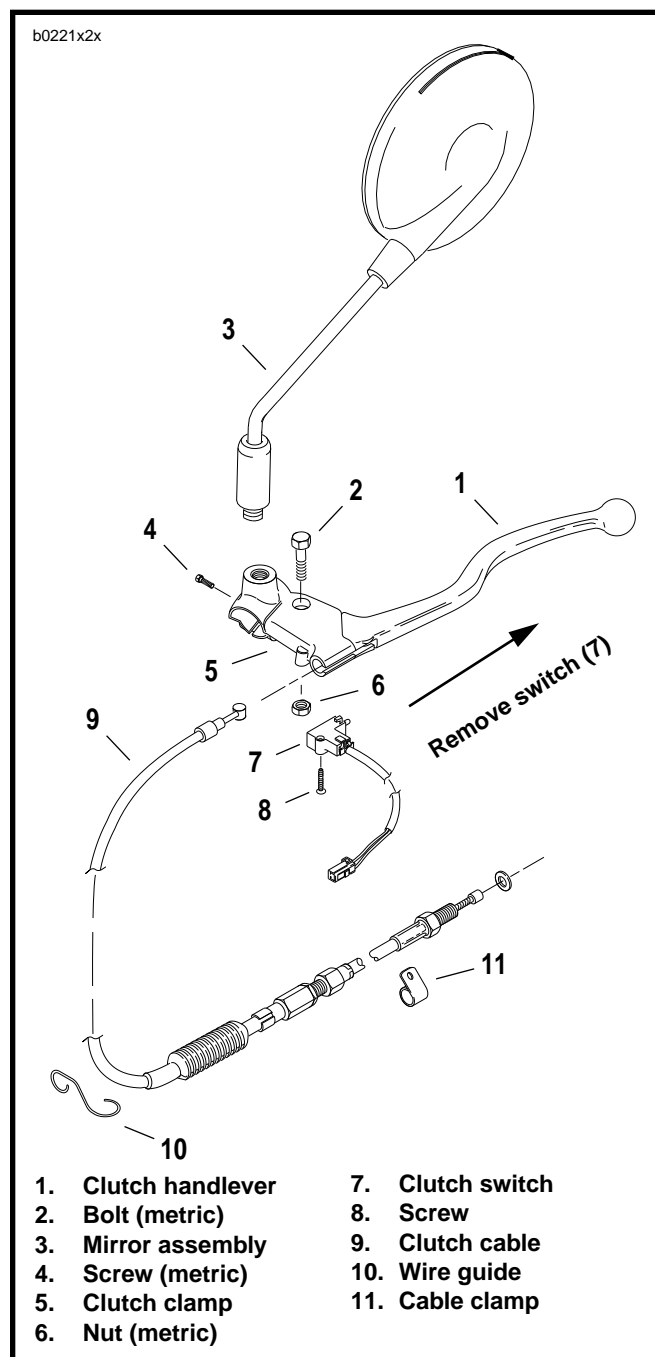

Figure 2-53. Clutch Hand Control
1. See **Figure 2-53**. Detach clutch switch (7) as follows.
- a. Remove screw (8).
1. See Figure 2-53. Attach clutch clamp (5) as follows.
- c. Place clamp next to switchgear housing. Fasten to handlebar with screw (4) (metric). Tighten screw to 30-35 **in-lbs** (3.4-4.0 Nm).
3. Apply small amount of LOCTITE ANTI-SEIZE LUBRICANT to bolt (2). Secure handlever with bolt (2) (metric) and nut (6) (metric).
4. Attach clutch switch (7) with screw (8).